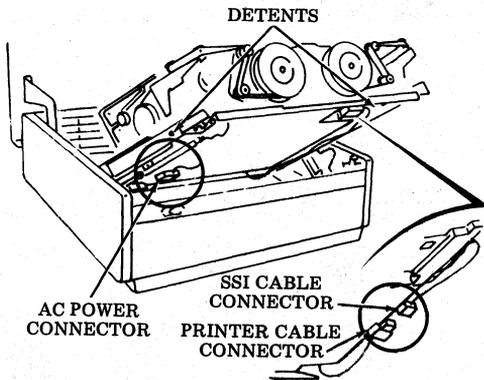

Fig. 2
- (e) Disconnect ac power connector (Fig. 2).
- (f) Disconnect SSI cable connector from printer cable connector (Fig. 2).
- (g) Grasp printer securely from underside; depress detents (Fig. 2) and slide printer out.